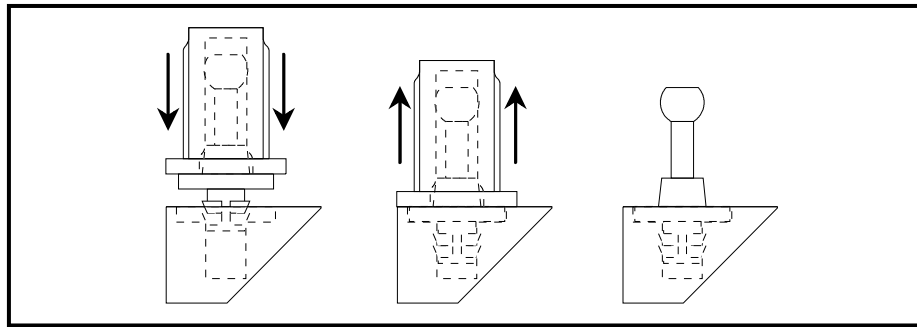

Figure 2.6 - Installing grille pin into COMPÁS grille frame. Note that after installation, the grille pin flange is flush with the surface of the ...
- Place the exposed end of the grille pin in the open mounting hole. Check to insure that the grille cloth is not trapped between the pin and frame. Use a small hammer and gently tap the new grille pin in place. Then, pull the insertion tool off the new pin and verify that the pin flange is flush with the surface of the grille. Please refer to Figure 2.6.